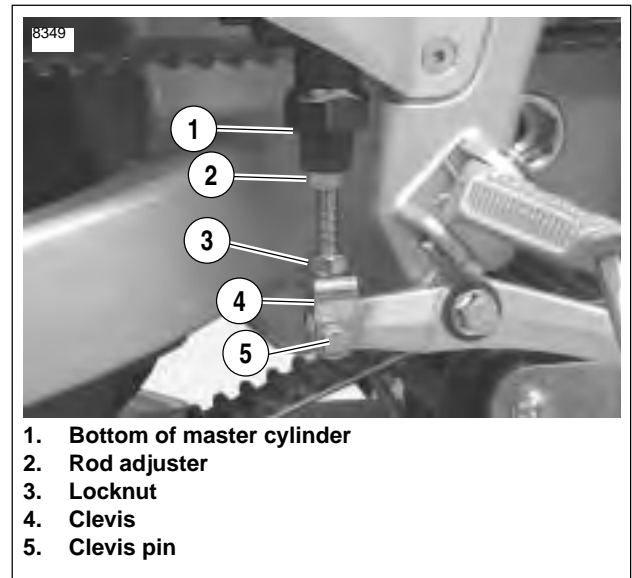

Figure 1-10. Pushrod Adjustment
1. See Figure 1-10. Measure distance from bottom of master cylinder (1) to center of lower adjuster rod clevis hole (5).
See Figure 1-10. Minimum allowable pushrod thread engagement inside clevis(4) is 0.24 in. (6.0 mm).
- a. See Figure 1-10. Loosen locknut (3) while holding rod adjuster (2). Move locknut away from top surface of turn buckle (4).
- c. Return locknut (3) to fit flush against top surface of clevis.